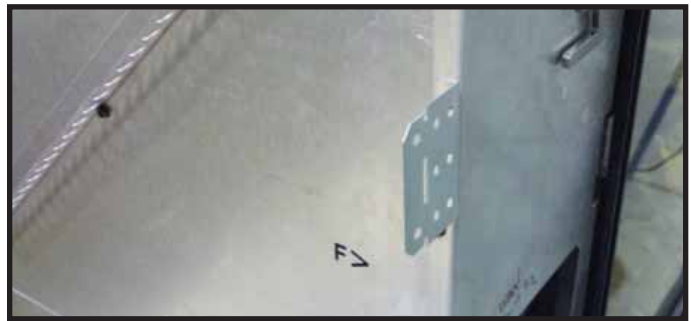

Figure 9.4 Side Nailing Tab Bent Out for Installation
- Bend out side nailing tabs 90 degrees. See Figure 9.4.